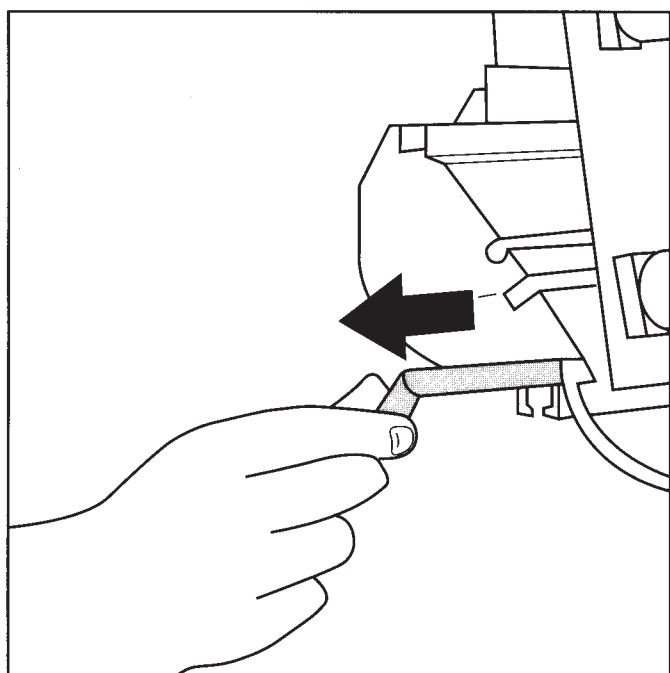

fig. 2
Pull the plastic locking pins (16A) out (fig. 2) and detach the acrylic sheet (25) from the aluminium profile.